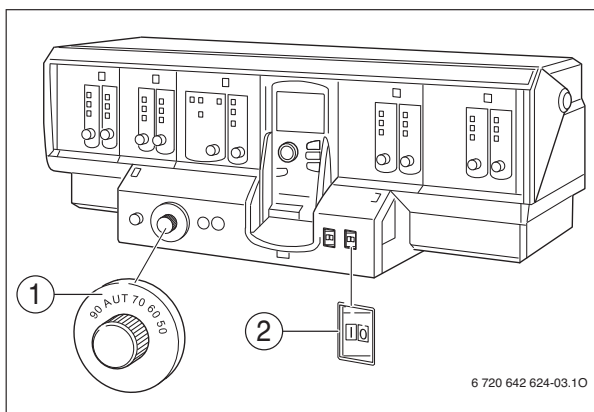

Fig. 4 Control panel (for example: Logamatic 4000)
Start your boiler via the control panel (→ Fig. 4). By starting the control panel, you also automatically start the burner. The burner is then fired by the control panel. For further details, see the operating instructions of the relevant control panel or burner.
- ▶ Switch the boiler water thermostat (→ Fig. 4, [1]) to "AUT."
- ▶ Set the ON/OFF switch (→ Fig. 4, [2]) to "I" (ON).
Shut down your boiler via the control panel (→ Fig. 4). The burner is automatically shut down when the control panel is switched off.
- ▶ Set the ON/OFF switch (→ Fig. 4, [2]) to "0" (OFF).